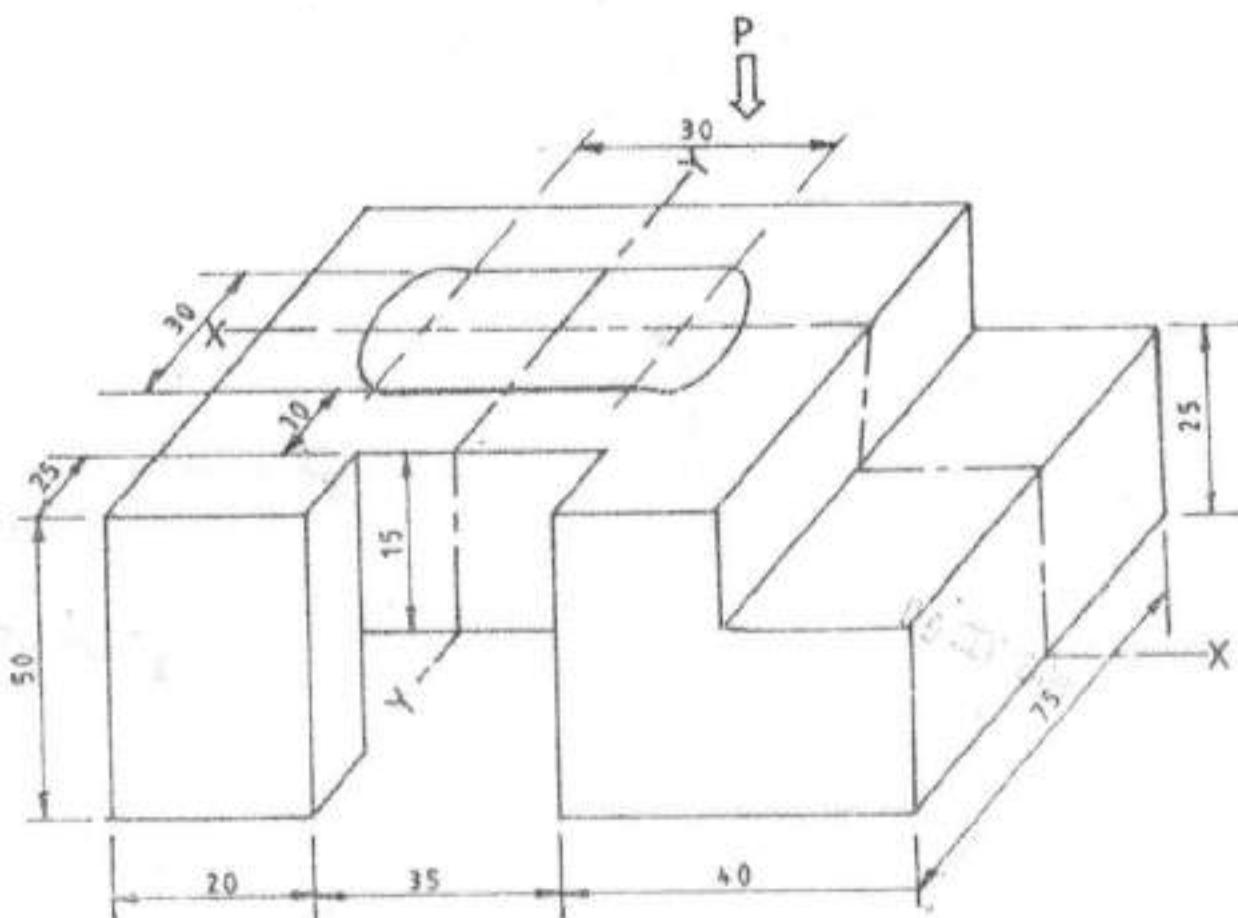

Fig. 7
8. Figure 7 shows a bracket. Draw the full size of the following in 1st angle projection;